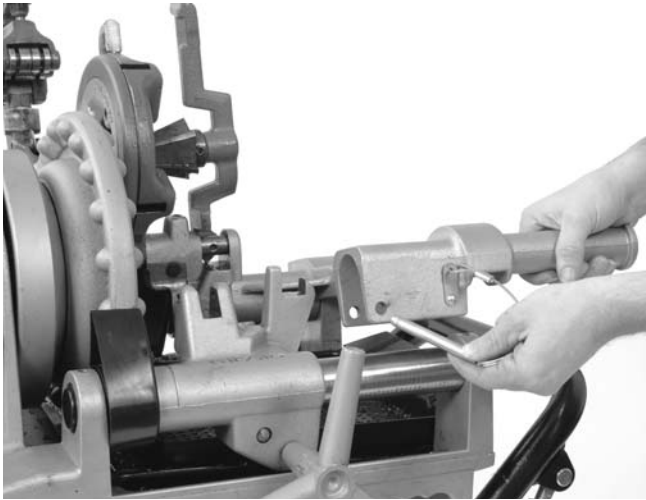

Figure 5 – Installing Adapter Bracket
3. Place the adapter bracket over the end of rails of the 300 Compact (as shown in Figure 5) and lock into place with the attached pin.